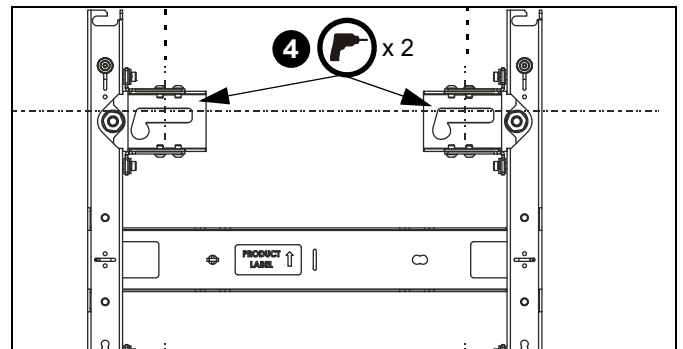

Figure 14
- Drill pilot holes towards top and in centerline of upper mounting slots on second mount (see Table 1 for size) and follow fastener information (appropriate for wall type) located in Table 1. (See Figure 14)